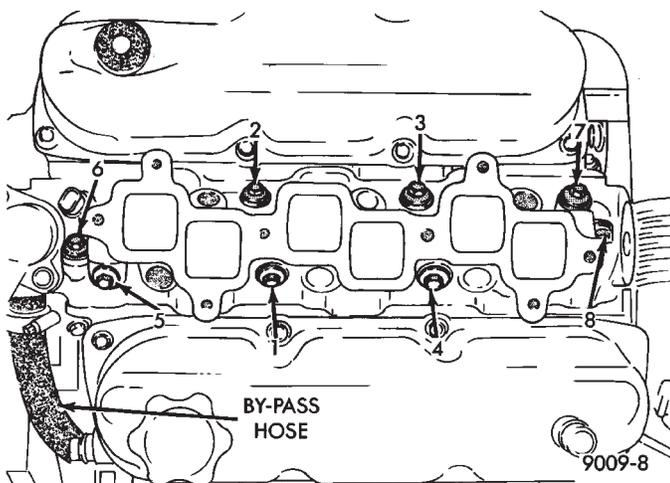

Fig. 13 Intake Manifold Removal and Installation
(22) Remove upper radiator hose, bypass hose and rear intake manifold hose (Fig. 13).
(23) Remove intake manifold bolts. Remove intake manifold.
(4) Install intake manifold and (8) bolts and torque to 1 N•m (10 in. lbs.). Then retorque bolts to 22 N•m (200 in. lbs.) in sequence shown in (Fig. 13). Then retorque again to 22 N•m (200 in. lbs.). After intake manifold is in place, **inspect to make sure seals are in place.**
(5) Make sure the injector holes are clean and all plugs have been removed.
(6) Lube injector O-ring with a drop of clean engine oil to ease installation.